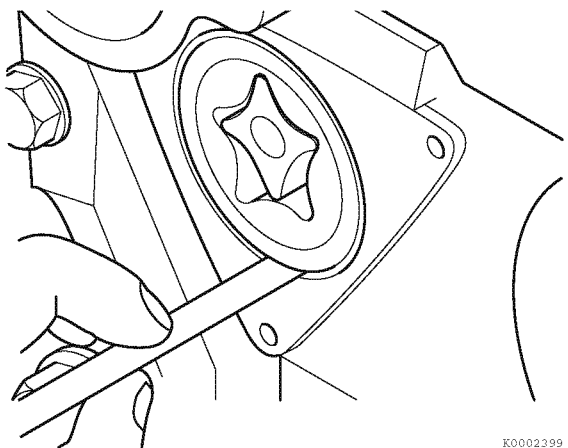

Figure 6-72
4. Use a feeler gauge to measure the outer rotor-to-housing clearance (**Figure 6-72**). Record the measurement.